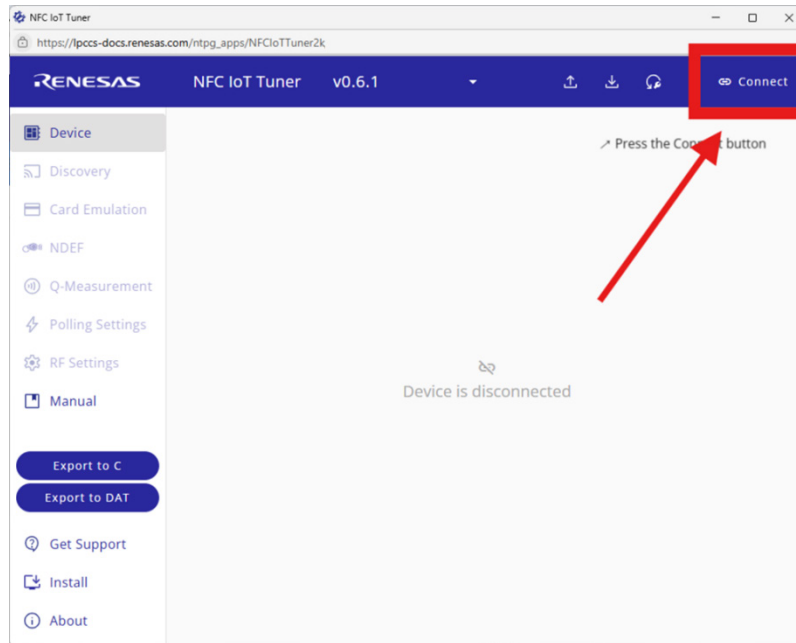

Figure 4. Device Connection Window
2. When the Web Tool opens, click the **Connect** button on the top right-hand side corner of the GUI (see Figure 4), then select the COM port where the board is connected to the PC.